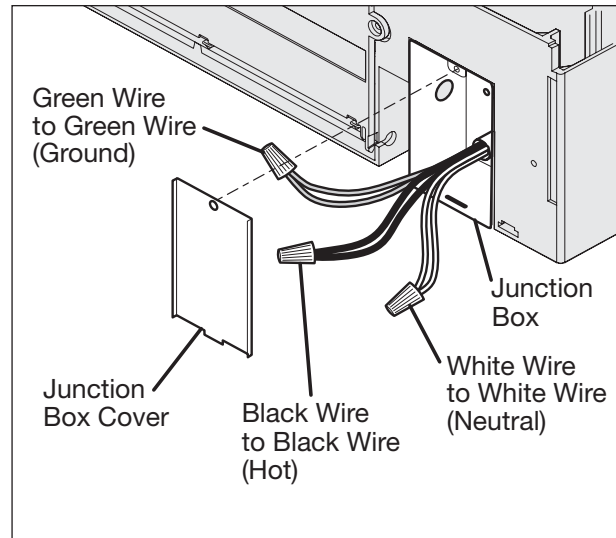

Figure 2-11. Electrical Connections
1. Remove junction box cover and pull house wiring into junction box. (See Figure 2-11)